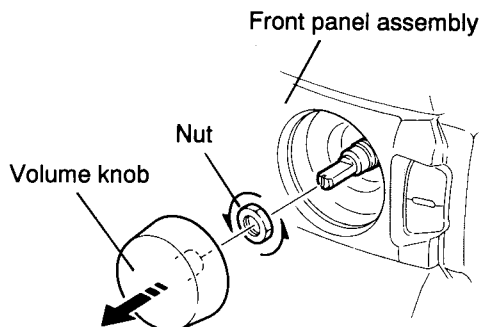

Fig. 5-20
(See Figs. 5-20~5-23)
4. Remove the volume knob from the front of the front panel assembly. (See Fig. 5-20)
5. Remove the nut fastening the volume control from the front panel assembly. (See Fig. 5-20)